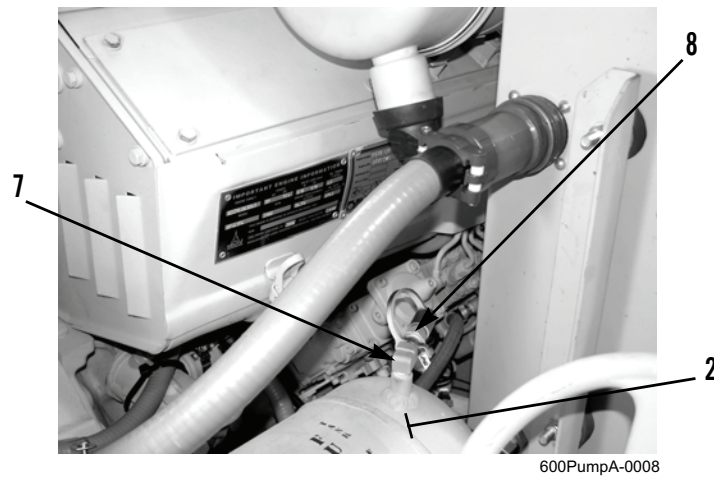

Figure 16. Fuel Jumper Hose Quick Disconnect Fitting.
24. FUEL PUMP ASSEMBLY. Install elbow (Figure 16, Item 7) and quick disconnect fitting (Figure 16, Item 8) on discharge manifold (Figure 16, Item 2).